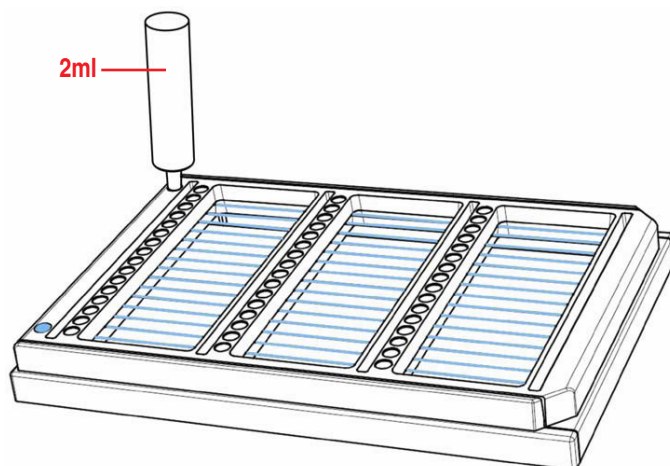

Figure 3
3. Using the 2ml syringe apply a slight vacuum on the upper loading well NOT containing the protein solution to ensure the protein runs quickly through the capillary system (Figure 3). Too high of a vacuum may cause air bubbles to form in the protein solution.